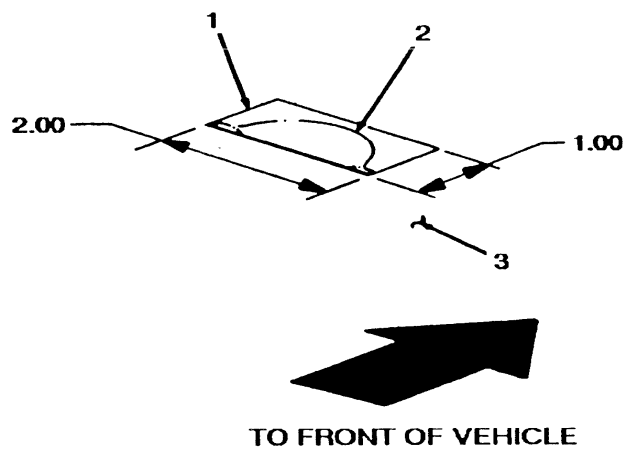
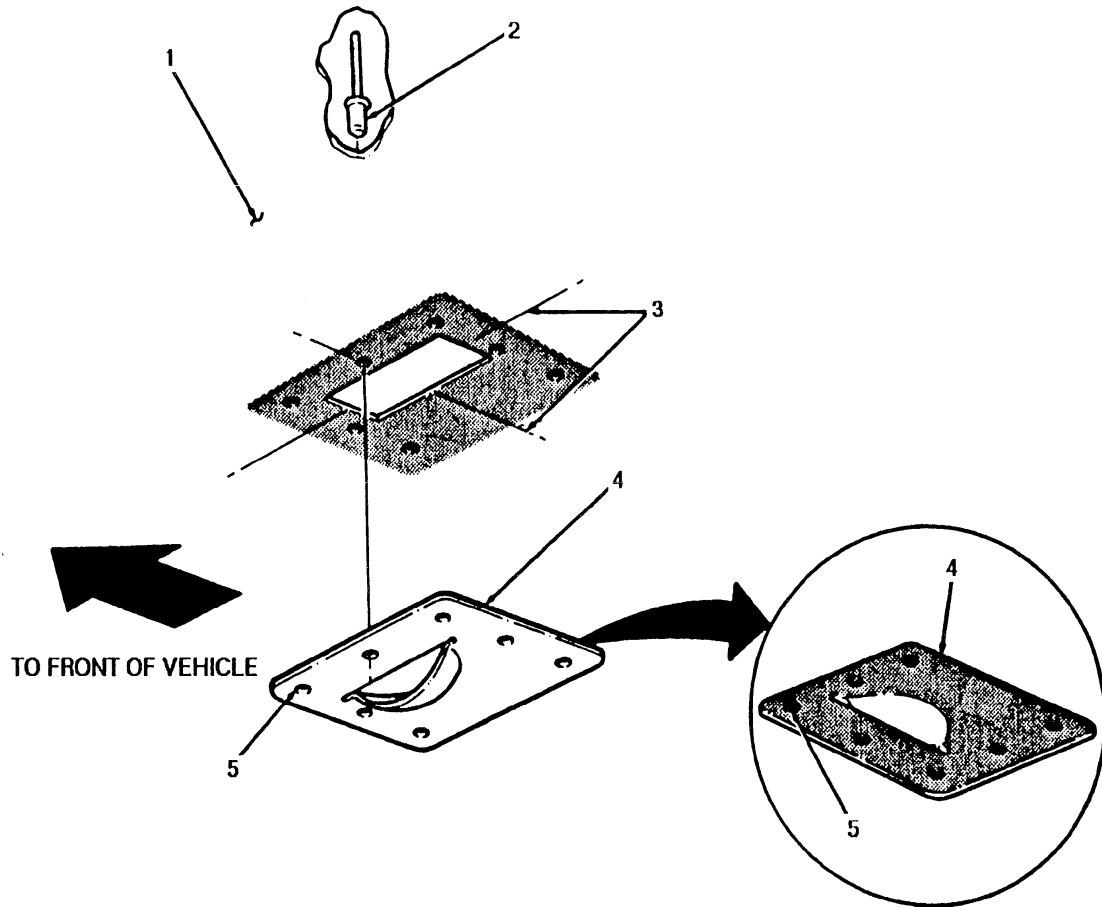

FIGURE 3-13
FIGURE 3-14
- (1) Mark an outline (1) at drain hole (2) on floor panel (3). (see figure 3-13)
- (2) Cut and remove drain hole (2) material from floor panel (3), marked in step 1. Remove sharp edges and burrs from floor panel (3).
- (3) Mark underside of floor panel (1) with two lines (3) centered over damaged floor drain area. (see figure 3-14)
- (4) Position P/N 12447129 drain hole plate (4) to the underside of floor panel (1). (see figure 3-14)
- (5) Using drain hole plate (4) as a template, transfer seven hole locations (5) onto floor panel (1). Remove drain hole plate (4).
- (6) Using hole locations (5), marked in step 5., drill seven 0.187-inch diameter holes through underside of floor panel (1).
- (7) Enlarge seven template holes (5) to 0.187-inch diameter in drain hole plate (4).
- (8) Apply approximately 0.125-inch thickness of P/N 89616 Silaprene adhesive sealant to shaded mating surface on drain hole plate (4).
- (9) Apply approximately 0.125-inch thickness of P/N 89616 Silaprene adhesive sealant to shaded mating surface on underside of floor panel (1).
- (10) Position drain hole plate (4) to underside of floor panel (1).
- (11) Install seven NSN 5320-01-271-6357 rivets (2) through floor panel (1) and drain hole plate (4).
- (12) Remove adhesive residue and clean edges on floor panel (1) and drain hole plate (4).
- (13) Spot paint floor panel (1) and drain hole plate (4). (Refer to TM 43-0139.)